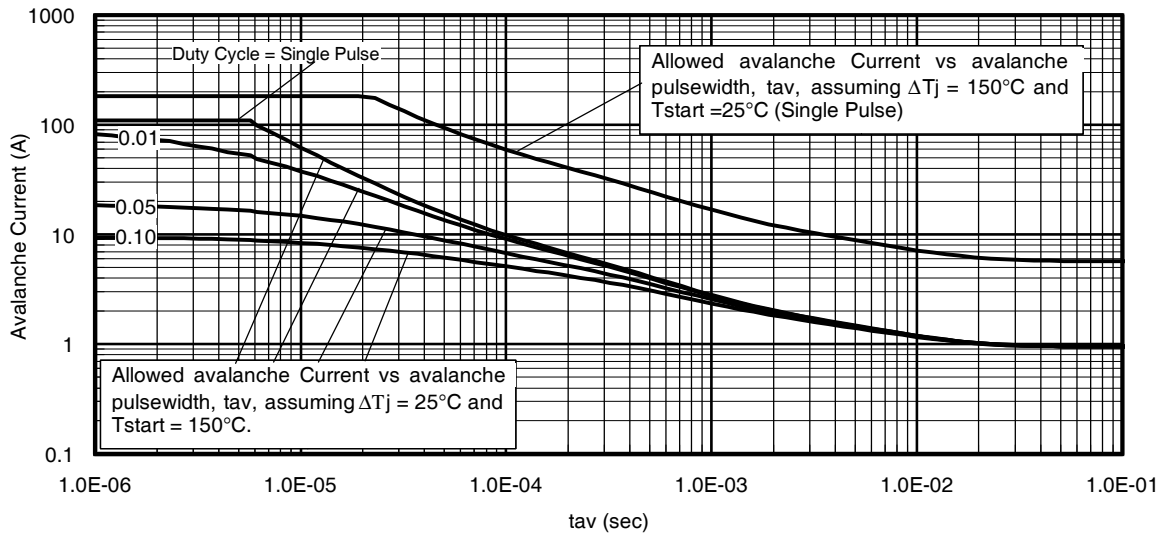

Fig 14. Typical Avalanche Current vs. Pulsewidth
**Notes on Repetitive Avalanche Curves, Figures 14, 15:
7. ΔT = Allowable rise in junction temperature, not to exceed Tjmax (assumed as 25°C in Figure 14, 15).